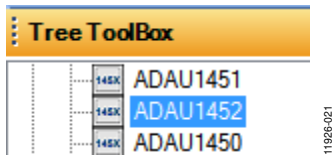

Figure 17. Adding an ADAU1452
- b. Add an **ADAU1452** component from the **Processors (ICs/DSPs)** subsection of the toolbox (see Figure 17).